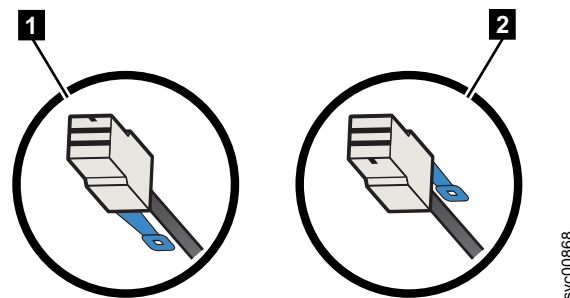

Figure 112. SAS cable connector orientation
- For Storwize V5000 Gen2 control enclosures and 2145-24F or 2145-12F expansion enclosures, the blue pull tab must be below the cable (**1** in Figure 112).
- For 2077-92F enclosures, the blue pull tab must be above the connector (**2** in Figure 112).